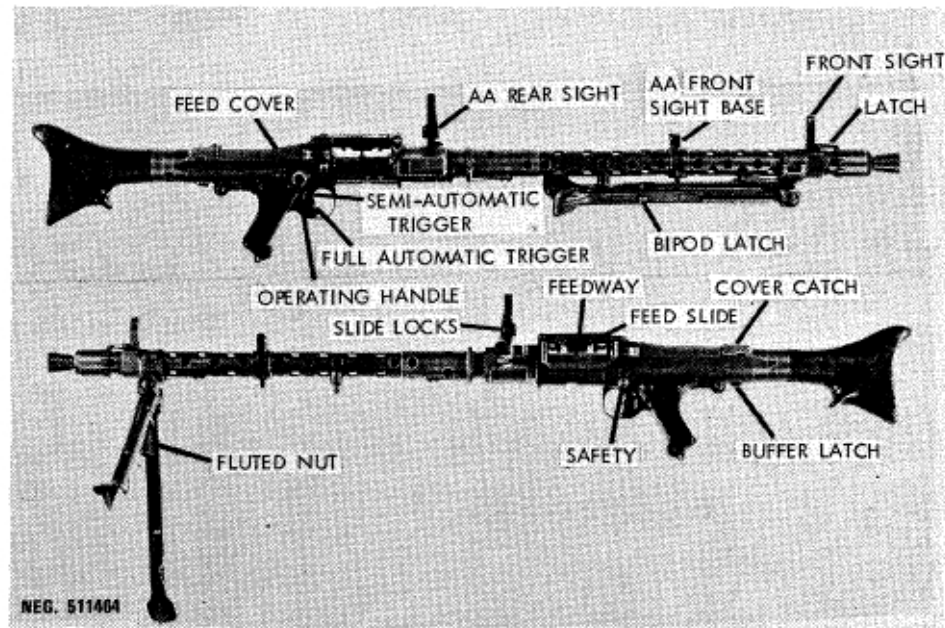

Figure 165. MG34 light machinegun.
a. The MG34 (fig 165) was developed in Germany in the 1930's as a general purpose machinegun. It could be used as a light, heavy, antiaircraft, or tank machinegun. This weapon is notable for its extremely high cyclic rate of fire and its fast, simple, barrel change. The air-cooled, belt-fed, recoil-operated MG34 is a closely fitted, intricately machined weapon that requires exacting care and cleaning to keep it operating. The high rate of fire requires a nice touch on the trigger to limit bursts to 8 or 10 rounds.
b. There are several ways to load the MG34. The preferred method is to press the cover catch (fig 165) forward and lift the
cover. Place the belt in the feedway (fig 165), feeding in from the left with open side of the links down and the first cartridge positioned in the lengthwise slot in the feed tray. Make certain that the safety (fig 165) is rotated forward, pull the operating handle (fig 165) to the rear, and thrust it fully forward. Push the feed slide (fig 165) to the left and close the cover; strike the rear of the cover with the hand to insure that the cover is latched.
e. Swing the front and rear sights to an upright position, squeeze the latch (fig 165) in the bipod legs, and swing the bipod forward. The height of the bipod can be adjusted by turning the fluted nut between the bipod legs; this controls the spread of the legs. Set the rear sight for range by pressing the slide locks, and move the slide until its upper edge is aligned with the number that corresponds to the range in hundreds of meters.
a. To disassemble the weapon, clear the gun (para 199h), but do not fold the bipod or close the cover. Press the buffer latch (fig 165) and turn the butt counterclockwise until it springs free of the receiver. CAUTION: A strong driving spring is released. Pull the driving spring out of the rear of the receiver if necessary. Hold a hand over the rear of the receiver and pull the operating handle rearward. This will move the bolt to the rear so that it can be grasped and removed.